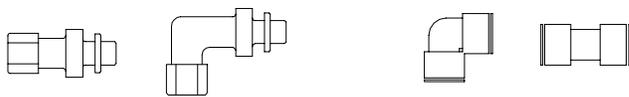
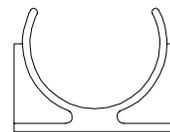
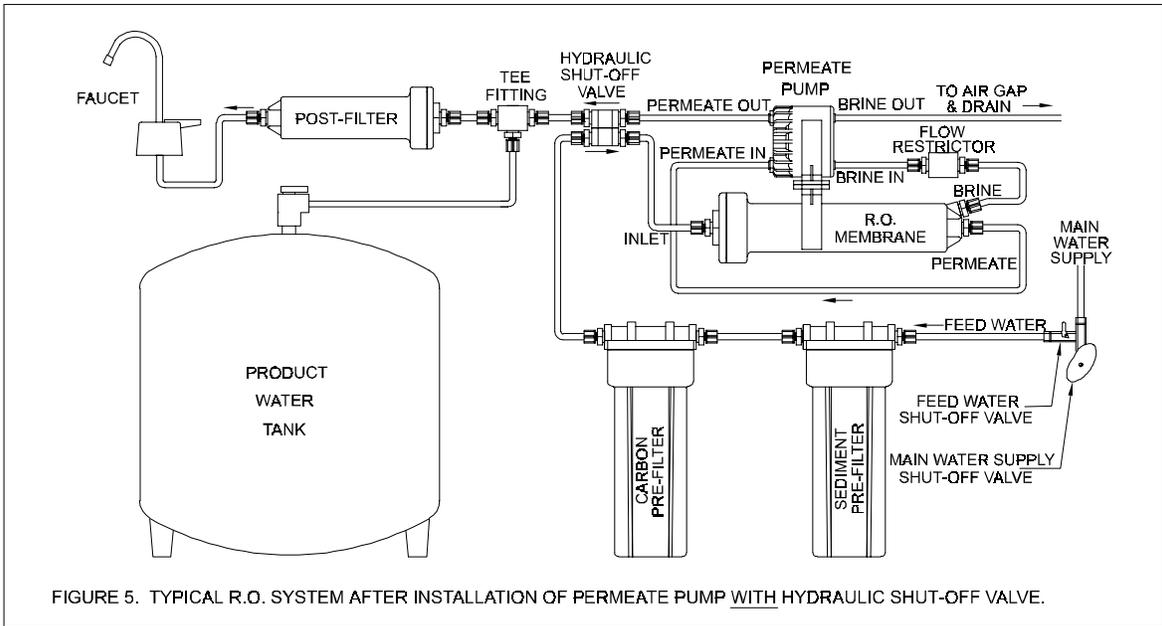
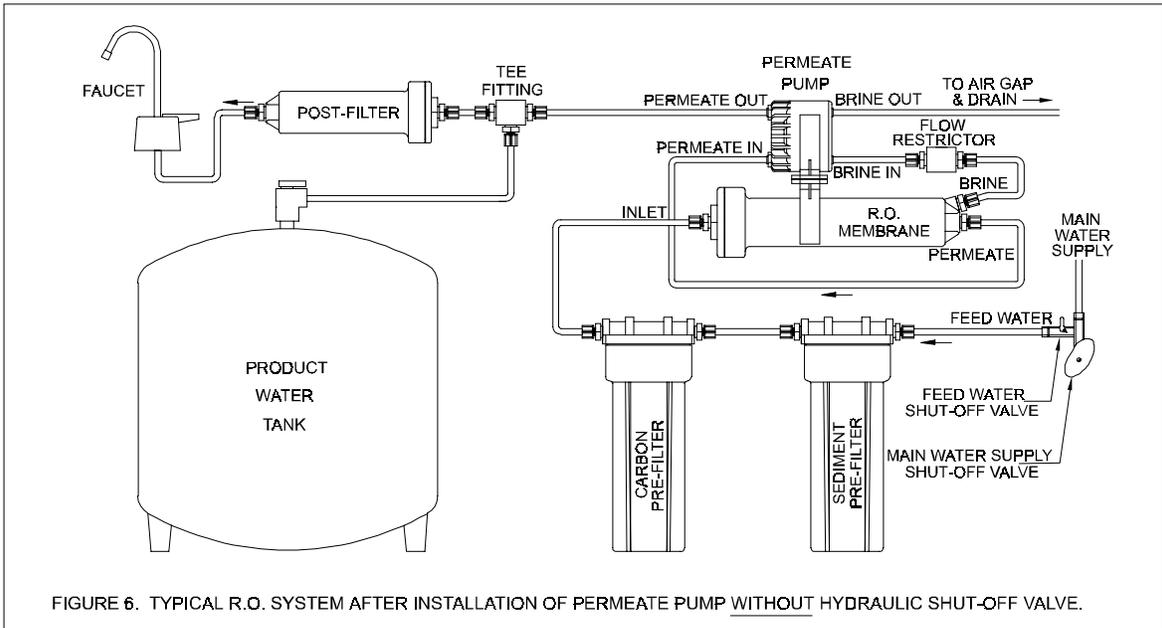

FIGURE 2. JACO® AND JOHN GUEST® ELBOW AND STRAIGHT FITTINGS
FIGURE 3. MEMBRANE CLIP
FIGURE 5. TYPICAL R.O. SYSTEM AFTER INSTALLATION OF PERMEATE PUMP WITH HYDRAULIC SHUT-OFF VALVE.
FIGURE 6. TYPICAL R.O. SYSTEM AFTER INSTALLATION OF PERMEATE PUMP WITHOUT HYDRAULIC SHUT-OFF VALVE.
3. **Mounting of Permeate Pump:** Two methods are commonly used. If you ordered Part Number 25-021 Permeate Mounting Clip Kit, (includes clip and 2 #10 x 3/4" self tapping screws) mount the clip on the systems bracket or other suitable location using the two screws provided. Also available, upon factory request, is a retrofit kit consisting of a membrane housing clip with nut and screw (Figure 3). Drill a #10 hole in the center of the base of the Permeate Pump Mounting Clip and join the two clips (Permeate Pump and membrane housing) at their bases using the screw and nut provided. The Permeate Pump mounts onto the R.O. membrane housing using the clip assembly.
- b. Connect a new tube from the "**PERMEATE OUT**" fitting on the **Permeate Pump** to the inlet side of the hydraulic shut-off valve as shown in Figure 5. Be sure the tube bottoms out on the fitting. If it is desired not to use the hydraulic shut-off valve, connect the permeate pump as shown in Figure 6 (see installation notes).
As shown in Figure 6, the hydraulic shut off valve may be removed from the system and the Permeate Pump will operate as the shut off valve. This configuration may be used only if a substantial volume of water is drawn from the tank each time. The benefit is that the system will produce more water than with the shut off valve installed. If however, the amount of water withdrawn is small (a cup at a time), it is recommended that the hydraulic shut off valve be retained as shown in Figure 5. This will reduce TDS creep of the RO membrane. The addition of the Permeate Pump decreases the time to fill the tank, but it does not reduce the amount of water produced. For manifold type RO systems, contact the factory for installation recommendations.
- Fittings:** Optional JACO® or John Guest® straight or elbow quick disconnect (Figure 2)
- Mounting:** Always mount with outlet ports up. Mounting clip (ABS) with (2) #10 S.S. screws available
- Retrofit Mounting:** Order membrane clip if required (Figure 3). Base of Membrane clip attaches to base of Permeate Pump clip with supplied fastener. Permeate Pump can then be mounted to membrane with clip assembly as shown in Figures 5 & 6.